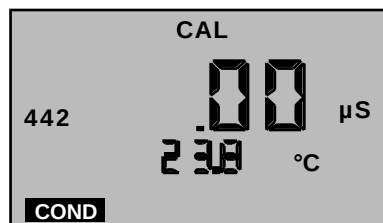

Figure 5
- Press  or , then press , “**CAL**” icon will appear on the display (see Figure 5).